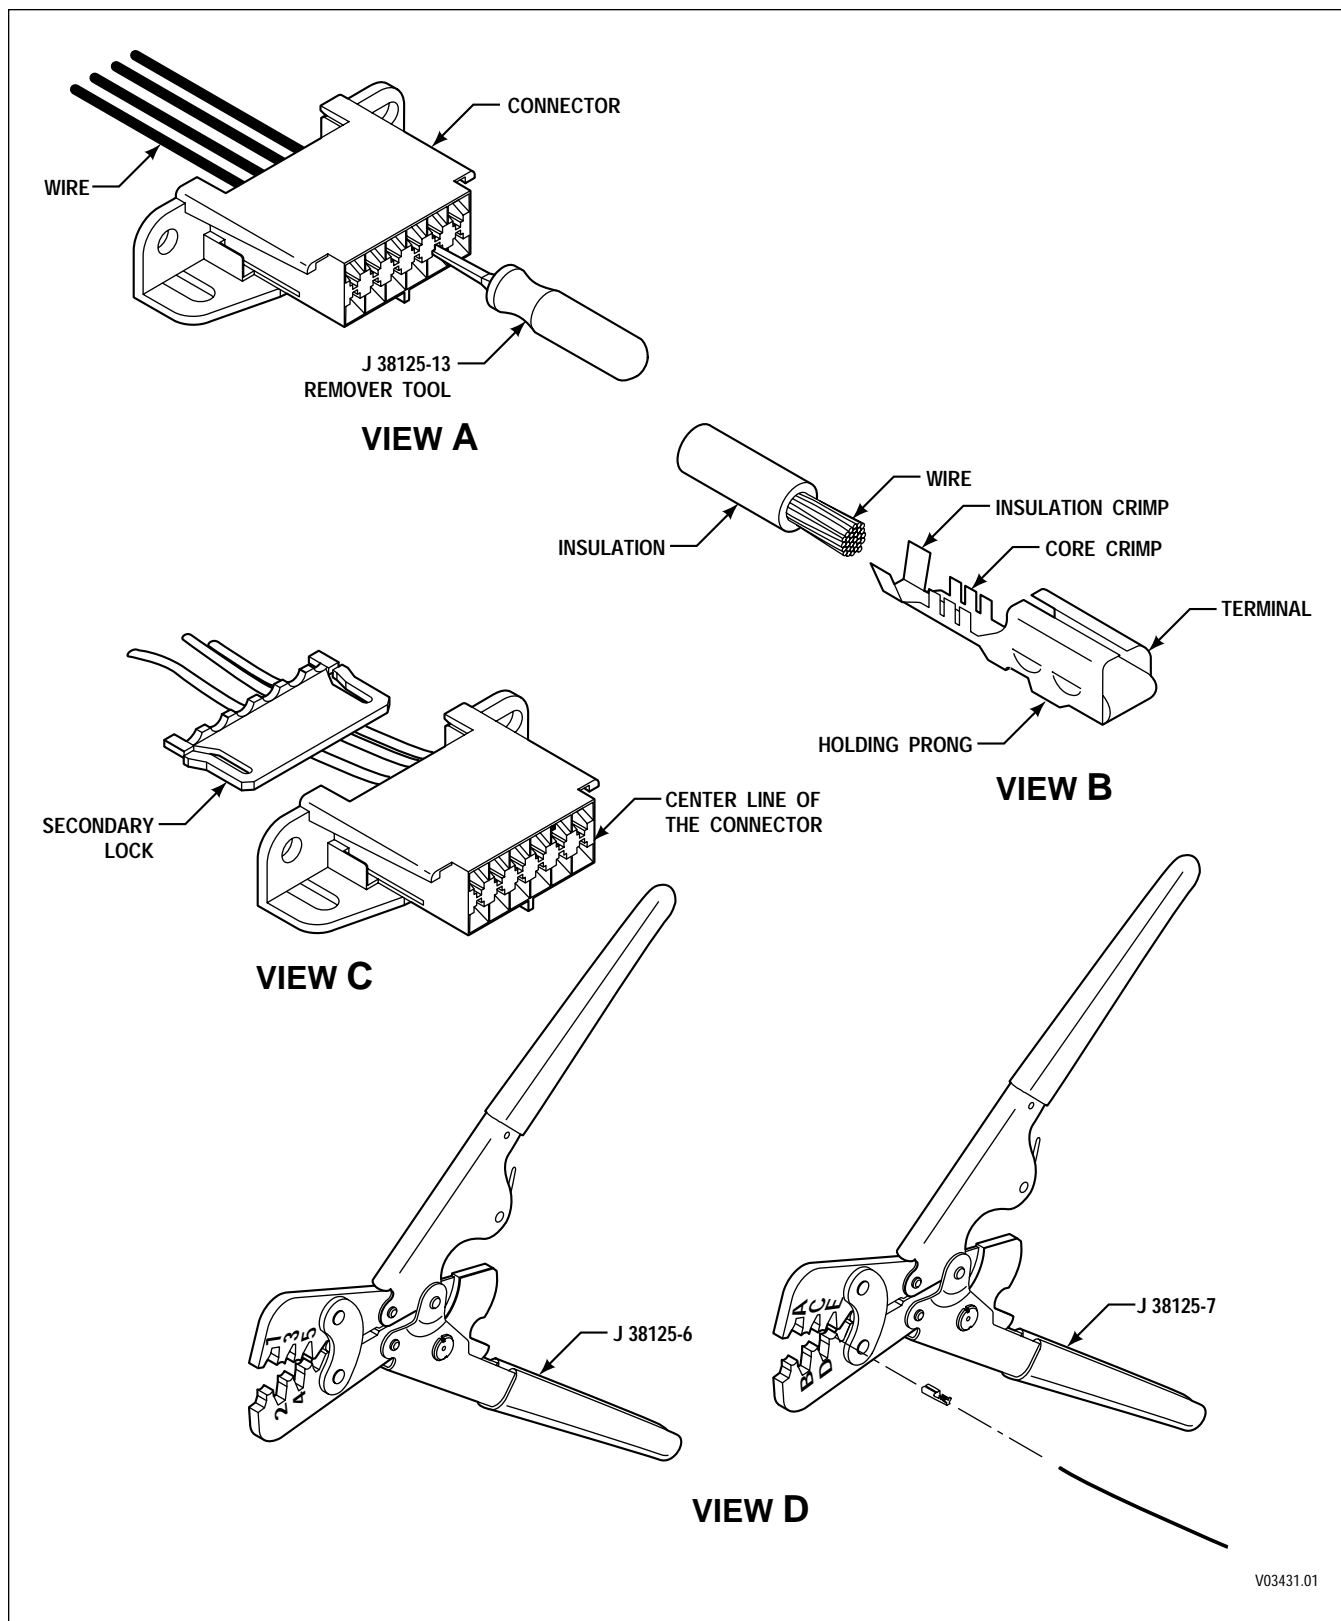

Figure E-6. Delphi-Packard Metri-Pack 280 Series Connectors — Push-to-Seat (DDR)
1. Remove secondary lock from back of connector (Figure E-6, View C). (Use a small screwdriver or pick in the slots on each side of the connector.)
2. Insert remover tool J 38125-13 into open (front) end of connector at terminal to be serviced (Figure E-6, View A).
2. Insert terminal into crimping tool (Figure E-6, View D), anvil "2."
4. Align the terminal with its position in the connector and insert wire so that the stripped portion of the wire is in the core crimping area and the insulated portion of the wire is in the insulation crimping area (Figure E-6, View B).
5. Crimp the stripped section of the wire (Figure E-6, View D).
7. Use a pair of needle nose pliers, if necessary, to start the bend on the insulation crimp wings (Figure E-6, View D).
8. Crimp the insulated section of wire using anvil "A" of the crimpers shown (Figure E-6, View D).
11. Insert terminal into connector with the locktab toward the center line of the connector (Figure E-6, View C).